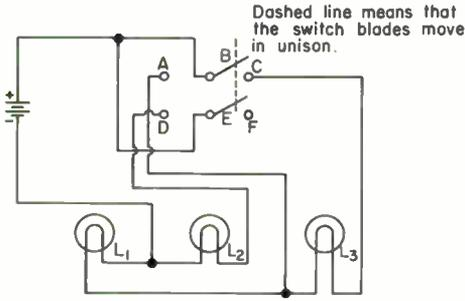

Fig. 13
5. The switch in Fig. 13 is called a double-pole double-throw (DPDT) switch. It has two switch blades *B* and *E*, which always move together. When the switch is thrown to the right, blade *B* makes an electrical connection with contact *C* and blade *E* makes a connection with contact *F*. When the switch is thrown to the left, *B* makes contact with *A* and *E* makes contact with *D*. Trace around the circuit to find the current path or paths when the switch is thrown to the right, and again when the switch is thrown to the left. Start at the negative battery terminal, and—for each switch position—find all the paths that can be followed that will bring you back to the positive battery terminal.